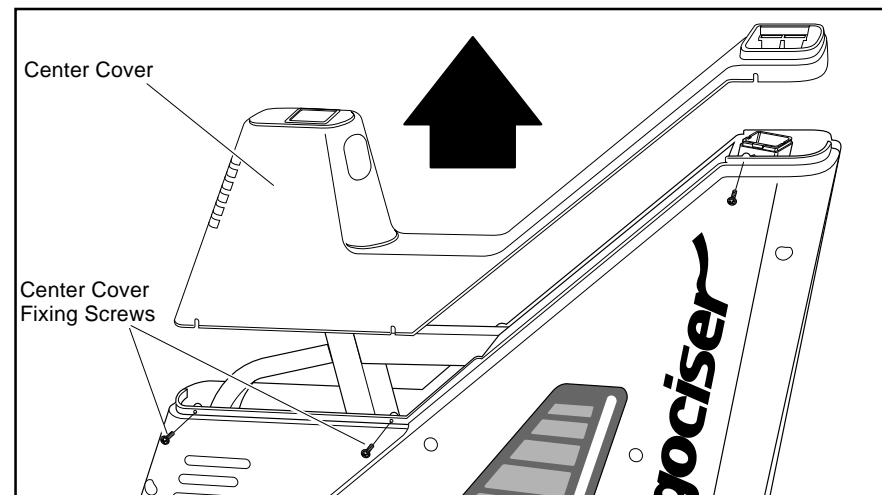

Fig. 7
7. Slightly loosen the center cover fixing screws (6 pieces), and remove the center cover by pulling it upward. (Fig. 7)